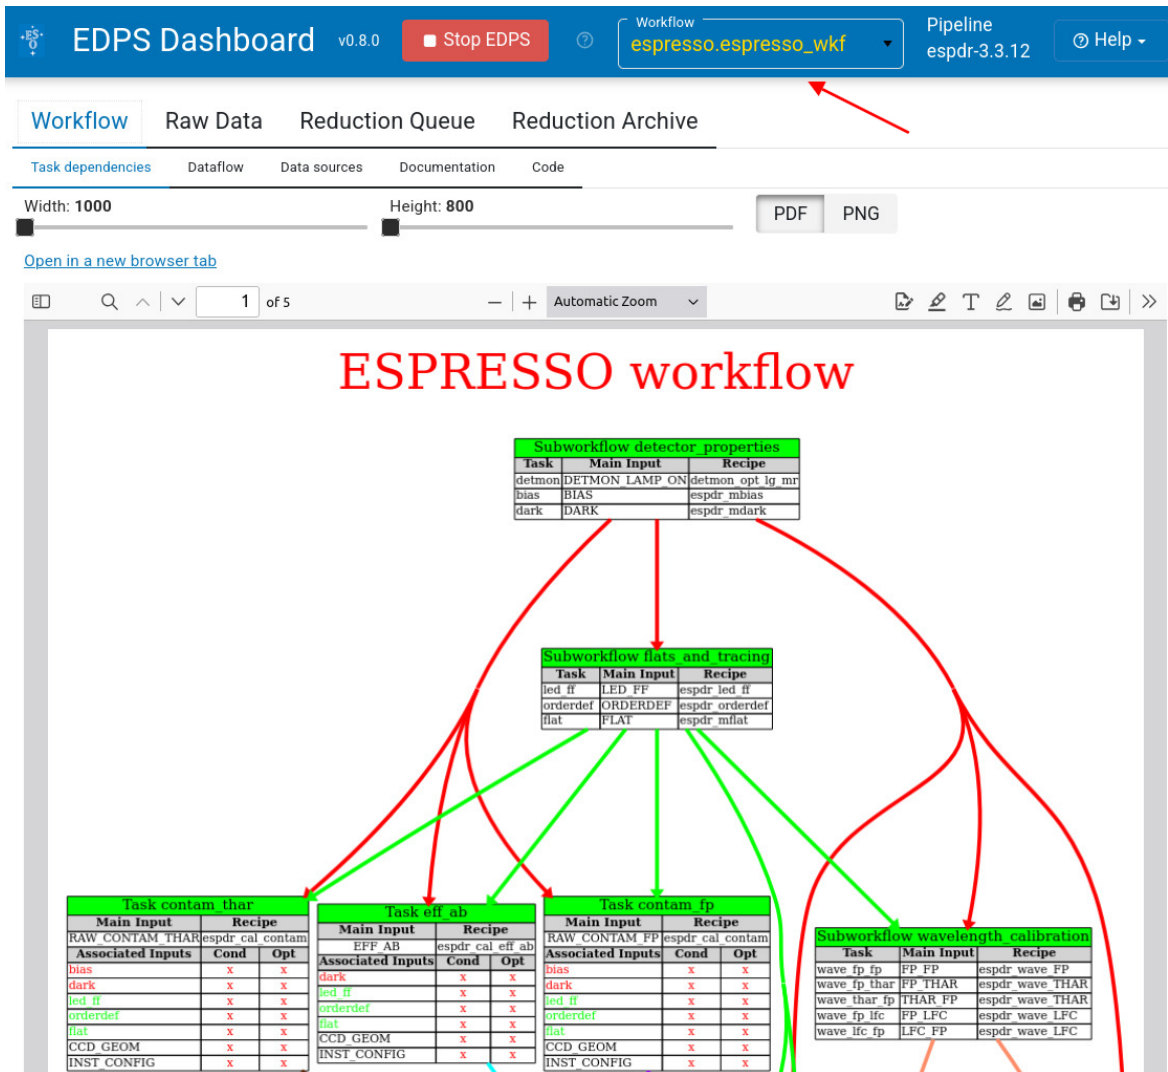

Figure 4: The edps-gui with the ESPRESSO workflow loaded.
5. Choose the `espresso.espresso_wkf` workflow from the list in the ‘Workflow’ field. The workflows offered in this selector depend on the installed pipelines. The graphic workflow representation will appear as in Figure 4.